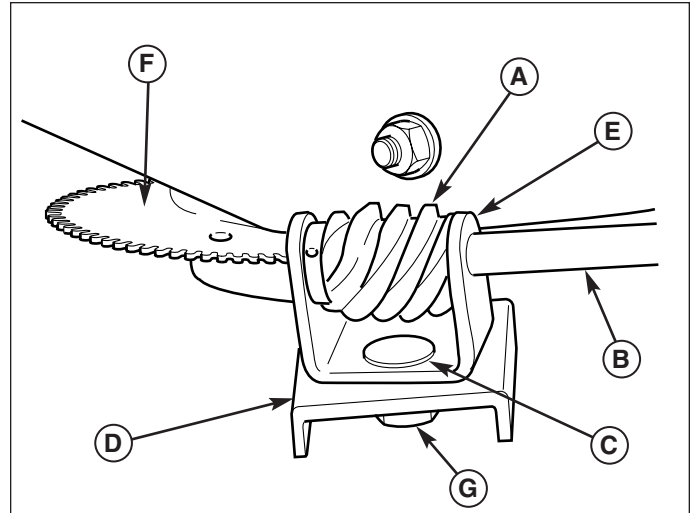

Figure 21. Discharge Control
If the discharge chute is difficult to operate, first lubricate the pinion gear (A, Figure 21) and ring gear (F). If it is still difficult to operate, adjust as follows:
1. Loosen the nut (G, Figure 21) which holds the pinion gear bracket in the slotted hole.